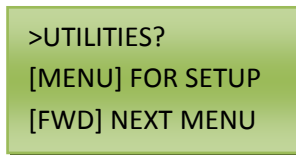

Figure 12.1
1. Press MENU on the keypad and the screen will say >UTILITIES? See Figure 12.1 for a visual example. If still in the Sequence Setup menu, just press BACK once and FWD once, to get to the >UTILITIES? Press ENTER on the keypad to setup Utilities.